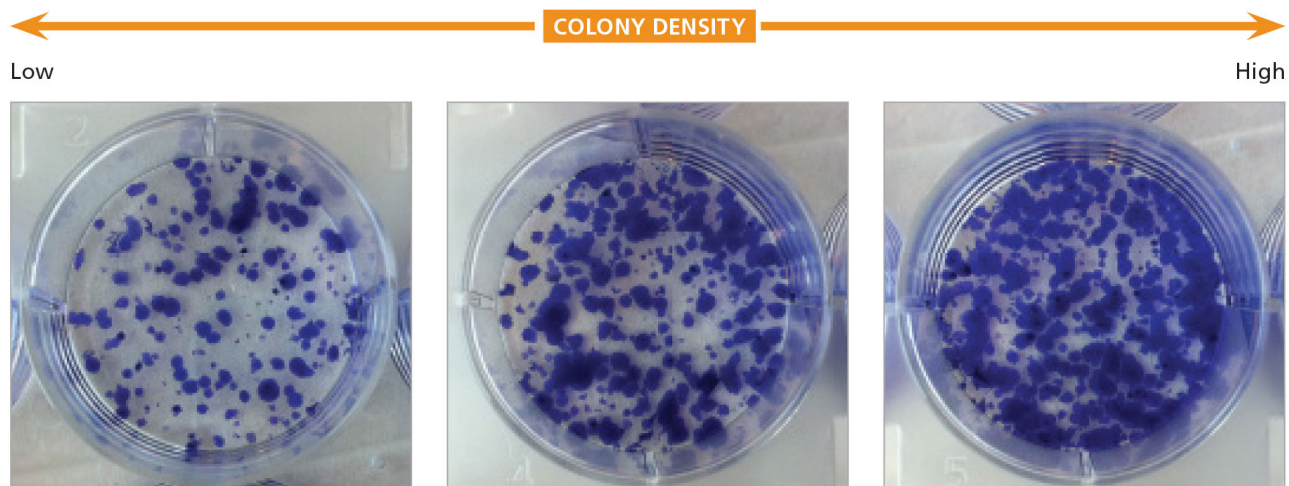

Figure 6. Example Colony Densities for Human ES or iPS Cultures
**For representative images see Figure 6.
The number of cell aggregates plated at the time of passaging is correlated to the colony density observed at the next time of passaging. By altering the split ratios at the time of plating, you can increase or decrease the colony density as desired. For example, a lower split ratio at the time of plating (i.e. plating more cell aggregates) will result in a higher colony density at the next passaging time. Typical split ratios are 1 in 10 to 1 in 50; however, this can vary depending on the passaging schedule, the cell line used, and the individual operator. Refer to Figure 6 for a recommended range of colony densities that should be observed at the time of passage. Counting cell aggregates is an alternate way to determine and adjust plating densities (see Appendix 1).